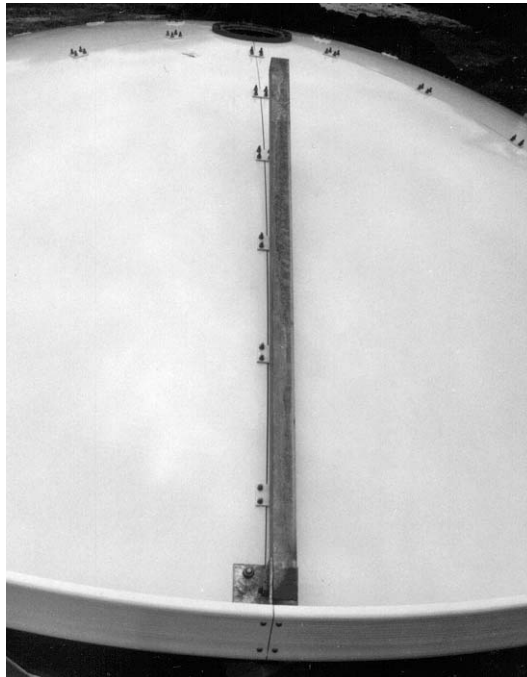

Figure 37
Step 4 Loosely attach support angles (P/N 49436) to three tee plates (P/N 202447) as shown in Figure 37.